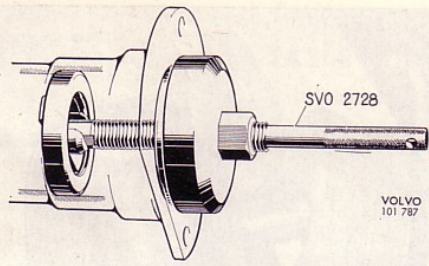

Fig. 11. Removing oil seal
3. Pull out the oil seal with the help of tool SVO 2728, see Fig. 11.